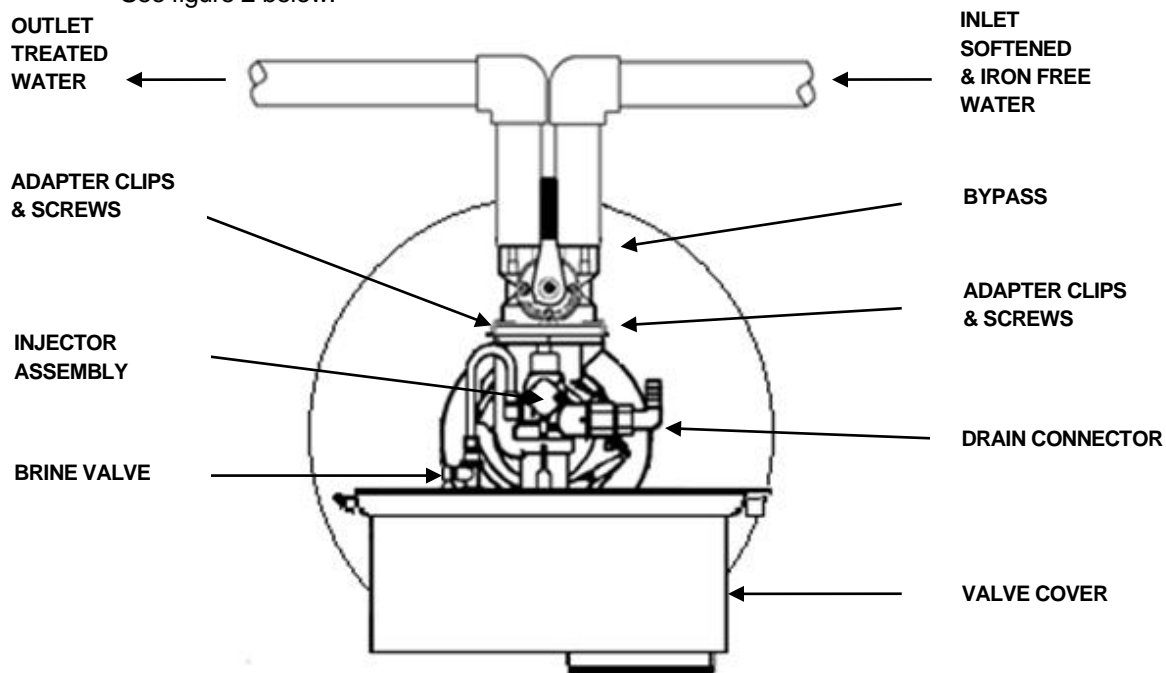

FIGURE 2: Top View of FSN & FESN Series Control Valve with Bypass
STEP 2: Use clips and screws provided and attach bypass valve to the inlet/outlet of the control valve. See figure 2 below.